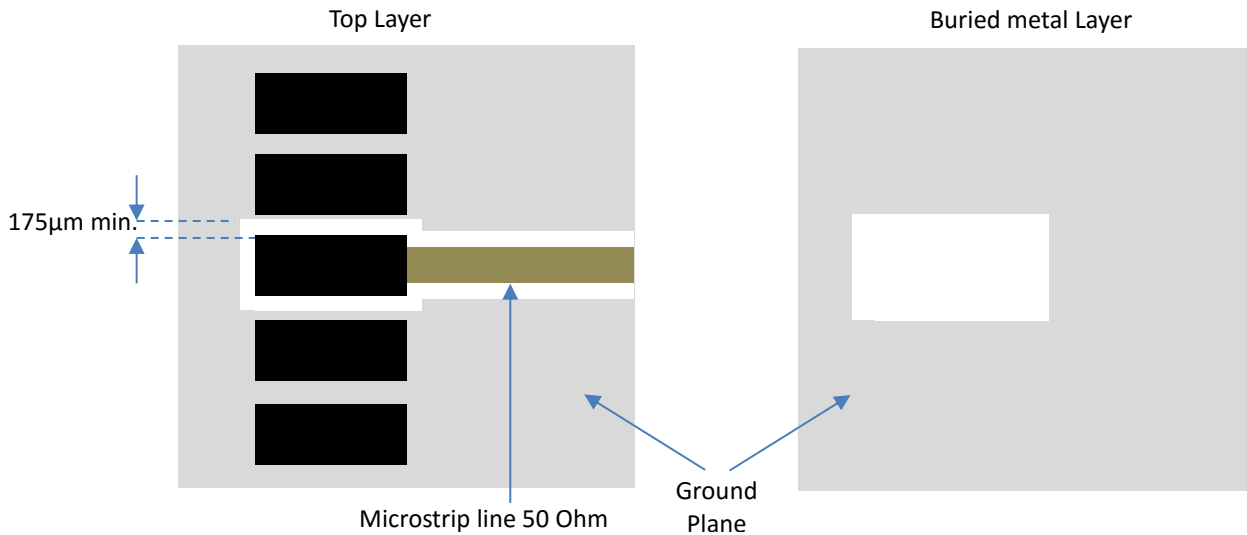

Figure 4: GND keep-out area on top layer around and on buried layer below **ANT** pad
- Increase GND keep-out (i.e. clearance) for **ANT** pad to at least 175 μm up to adjacent pads metal definition, as described in Figure 4
μm , to reduce parasitic capacitance to ground (see Figure 4 for the description of the GND keep-out area below **ANT** pad)